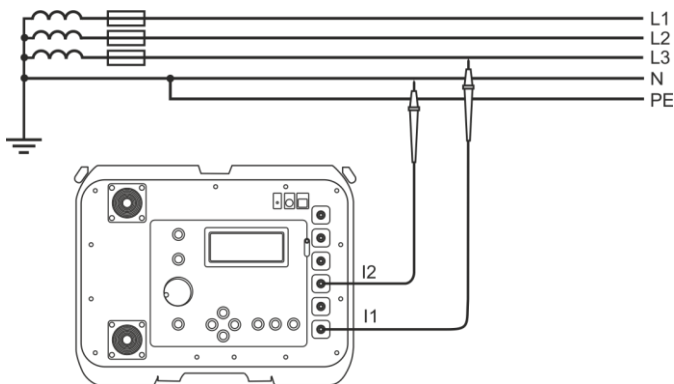
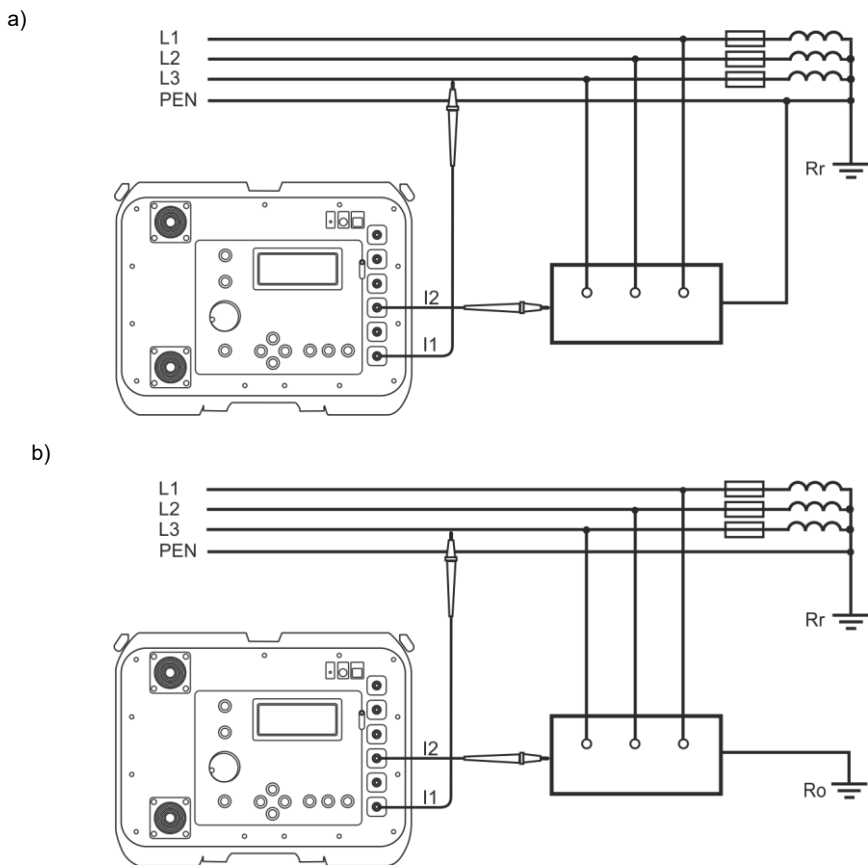

Fig. 17 Measurement of impedance in working circuit (L-N) using two-pole method
Fig. 20 Verification of anti-shock protection reliability of appliance's housing using two-pole method for: a) TN networks b) TT networks
- connect the test leads to the sockets: I_1 (**2p**) and I_2 (Fig. 17-Fig. 20),